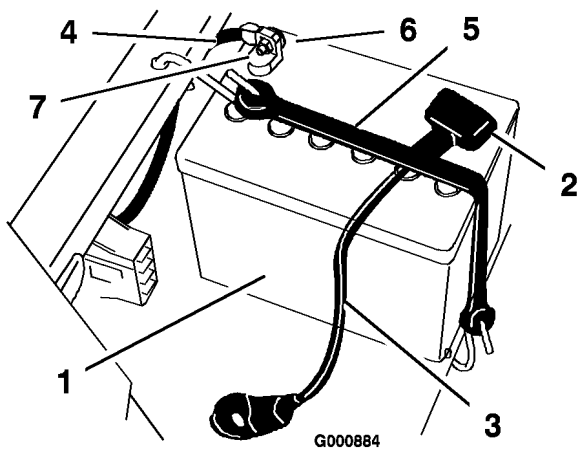

Figure 31
4. Disconnect the negative (black) ground cable from the battery post (Figure 31).
5. Slide the rubber cover up the positive (red) cable. Disconnect the positive (red) cable from the battery post (Figure 31).
6. Remove the battery hold-down (Figure 31) and lift the battery from the battery tray.
1. Position the battery in the tray with the terminal posts away from the control panel (Figure 31).
2. Install the positive (red) battery cable to the positive (+) battery terminal. Secure the cable with a bolt (1/4 x 3/4 inch), washer (1/4 inch), and nut (1/4 inch) (Figure 31).
3. Install the negative battery cable to the negative (-) battery terminal. Secure the cable with a bolt (1/4 x 3/4 inch), washer (1/4 inch), and nut (1/4 inch) (Figure 31).
5. Secure the battery with the hold-down (Figure 31).